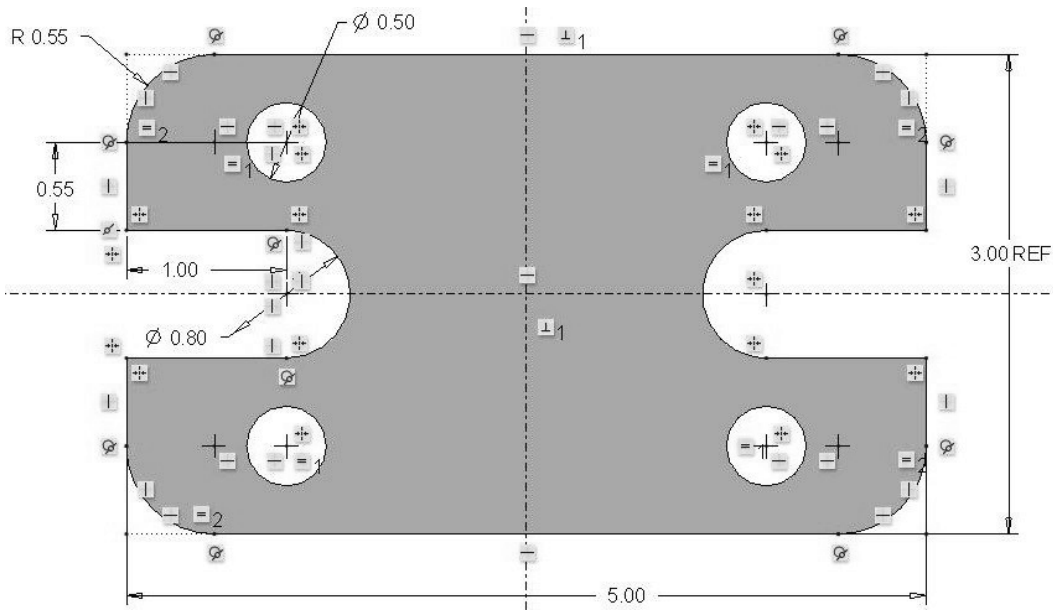

Figure 3-75 Problem 6—Cover Plate
- 3.6** Draw the front view of "cover_plate" (Figure 3-75). **Design Intent**—The plate is symmetric about its center in both directions. Why does the 3.00 dimension have the letters REF after it? (>File>Options>Sketcher, change to 2 decimal places before sketching. *Pick OK.*)